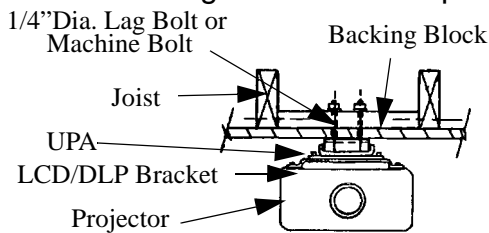
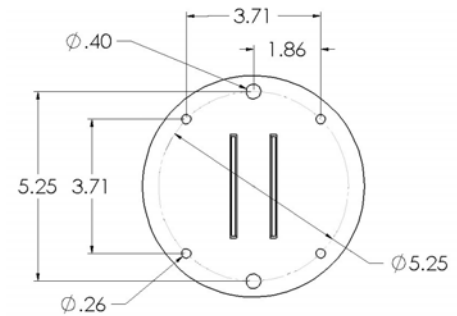

Figure 8. Example Using Lag Bolts or Machine Bolts
Figure 9. Ceiling Plate Hole Pattern
The UPA can be secured to a wood framing member through two larger round holes in the ceiling bracket using two 3/8" lag screws for single stud mounting, four slotted holes in the ceiling bracket using four 1/4" diameter lag screws or, if the area is accessible from above, using four 1/4" diameter machine bolts, nuts, and washers (see Figure 8). Install the UPA as follows:
1. Secure the ceiling bracket to the wood framing member (see Figure 8 and Figure 9).